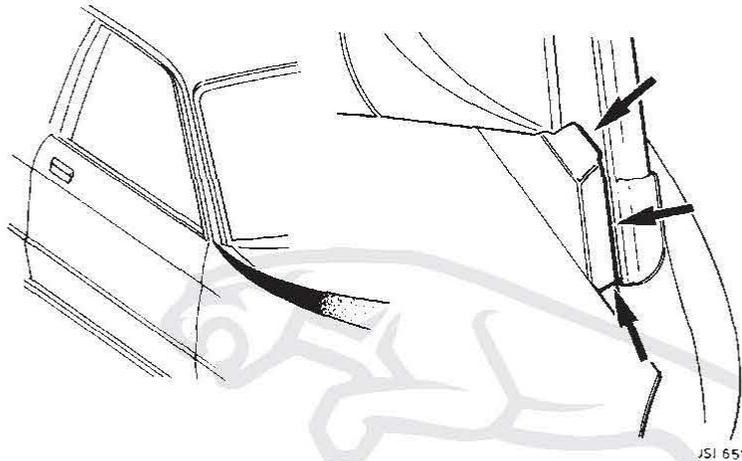

FIG.4
- 4 Outer waist seal to window frame LH and RH front doors - Fig 4
With reference to Fig 4, an air leakage point may exist at the indicated areas due to gaps between the outer waist finisher moulding and the window frame. The gap is caused by inconsistent tolerances at the area indicated.